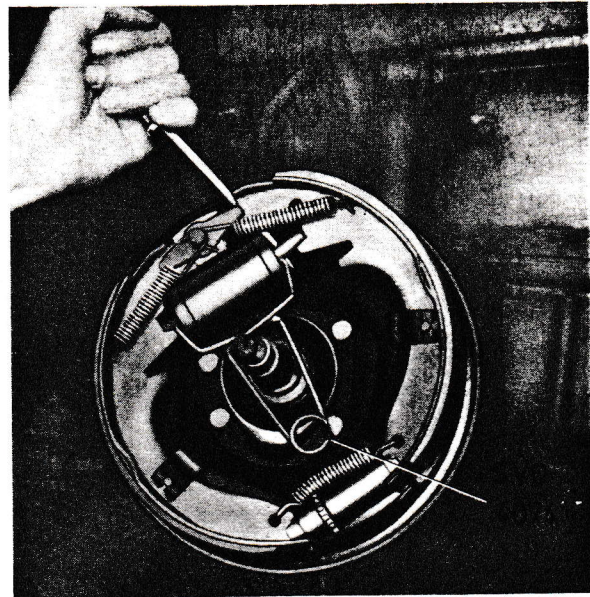

Fig. 24. Removing the wheel unit cylinder.
2. Locate the clamp SVO 4074 over the master cylinder. Move the brake shoes to one side by using a screwdriver so far that the push rods are clear from the shoes, see Fig. 24.